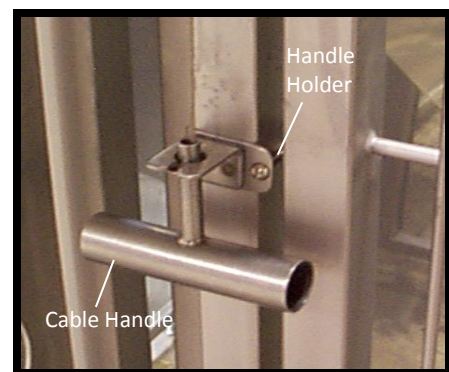

Figure 45: Cable Handle on Handle Holder
7. Place the cable handle in the handle holder (Figure 45).